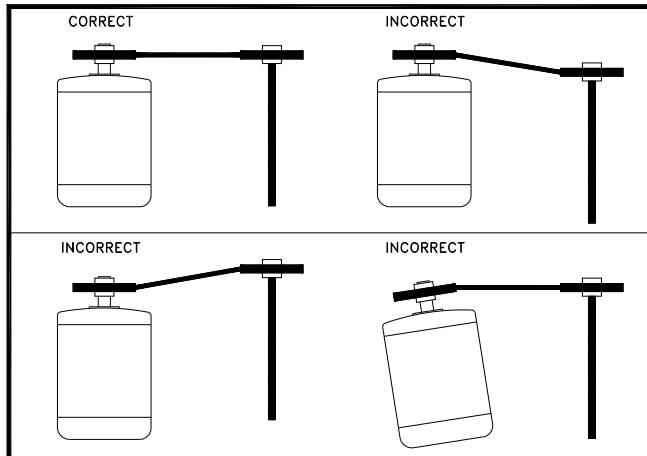

Fig. 8 – Pulley Alignment
4. Ensure pulleys are properly aligned. Refer to Fig. 8
Pulley alignment is adjusted by loosening the motor pulley setscrew and by moving the motor pulley on the motor shaft, or by moving the entire motor along the motor mounting bracket. Fig. 8 illustrates correct and incorrect pulley alignment.